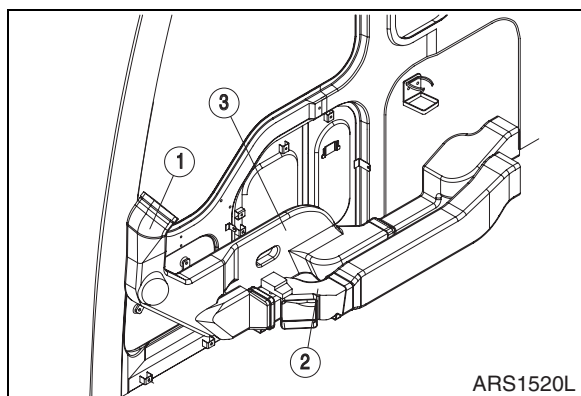

Figure 3
16. Remove air duct (1, 2 and 3, Figure 3) at right side of cab. Disconnect duct wiring connector before removing duct (2).